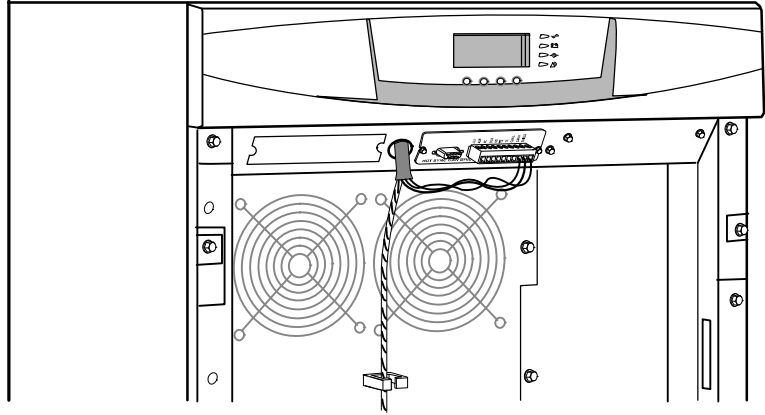

Figure 50. Routing the Cables
8. Route the wiring through the conduit from the communication wiring access plate to the opening between the two X-Slot communication bays on each UPS (see Figure 50).